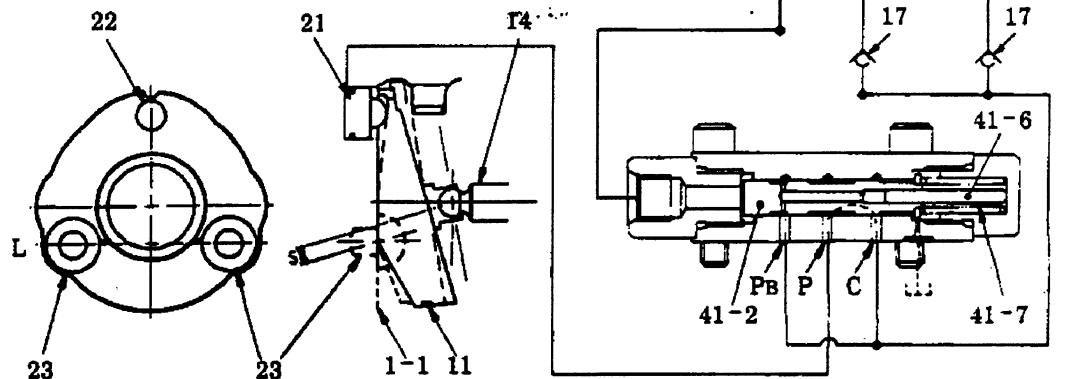

Fig. 7 Function of the variable capacity mechanism
The motor has nine pistons distributed evenly over swash plate (11) to press swash plate (11). The resultant force of the pistons lies nearly in the center of the shoe plate as illustrated in Fig. 7. Since pivot (23) position is off the center by an amount S, a rotating force equal to the torque of $S \times$ the pressing force of the pistons. This torque brings the motor back to its original condition or low speed travel
The hydraulic motor changes the speed to low speed automatically if loads to the engine exceeds the engine power when climbing on a slope and turning the machine in the high speed mode, in order to prevent the engine from stalling. This occurs as the pressure of the hydraulic pump is admitted to port PB of Fig.7 and acts upon pin (41-6). If the pressure exceeds a specified level, spool (41-2) is brought back to the left by the reaction force of pin (41-6). This releases the oil pressure pressing tilting piston (21) and tilts swash plate (11). This increases the displacement of the motor and shifts the motor to low speed. If the pressure falls below a specified level, spool (41-2) moves to the right to shift the motor to high speed.
(4) Overload valve